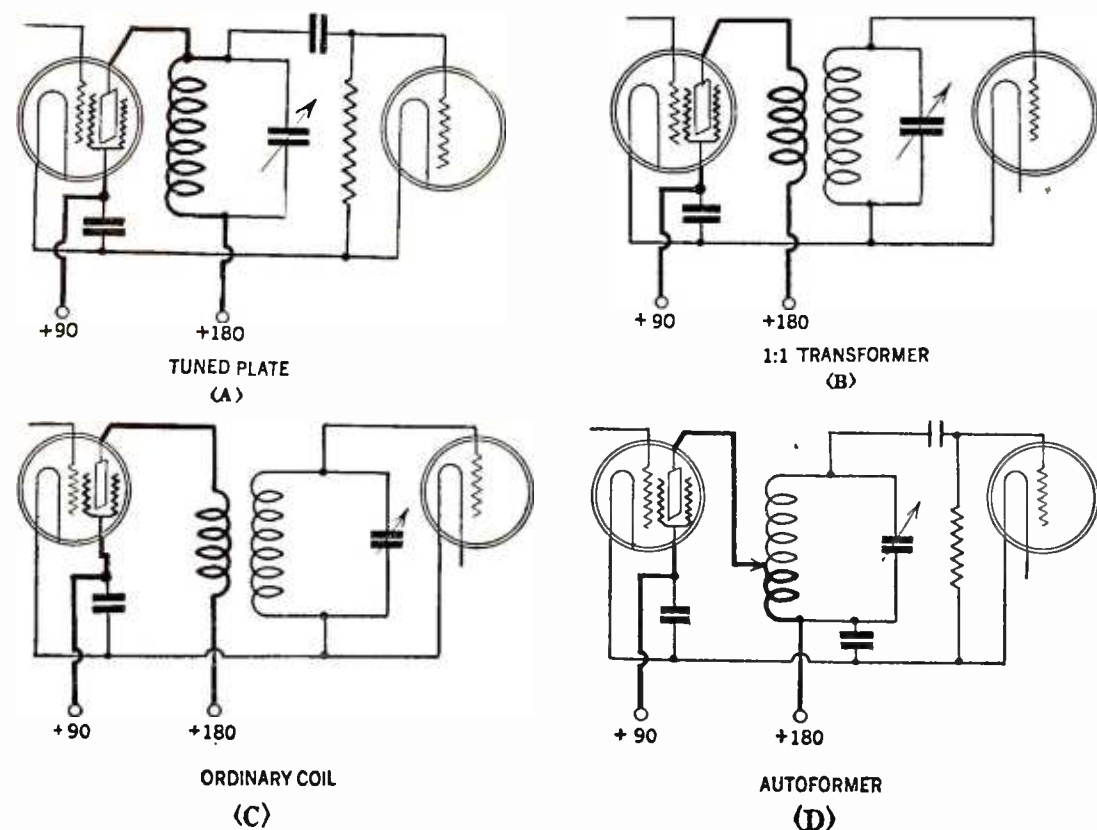

FIG. 2
1. A tuned impedance, directly from plate and grid to ground. Fig. 2-A.
2. An auto transformer, in which a portion of the secondary is used as primary, the low potential ends being common. Fig. 2-D.
4. A primary wound to take up a length of $1\frac{1}{2}$ " inside the secondary. Fig. 2-B.
6. A primary wound to take up $\frac{1}{2}$ ", placed inside and opposite the low potential end of the secondary. Fig. 2-C.